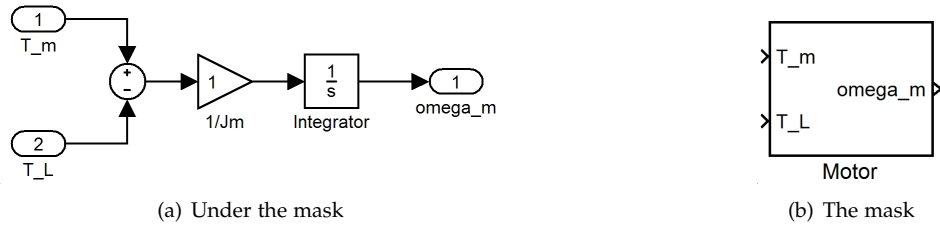

Figure 2: Simple motor implemented in Simulink
- (a) Implement the motor in Simulink as illustrated in Figure 2. Choose yourself if you want to hardcode the parameter J_m (as in the Figure), or you want to make it a mask parameter.
Solution: See Figure 2.